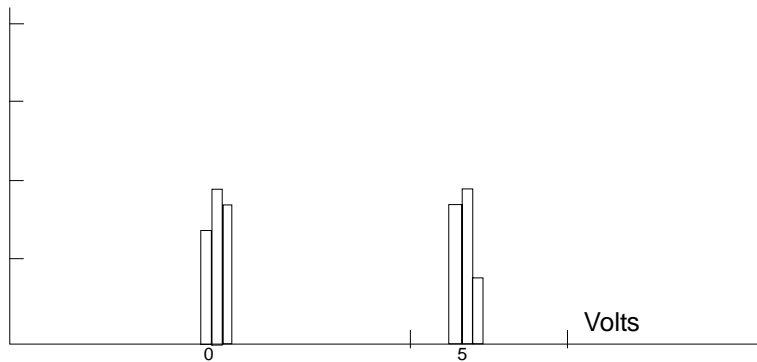

Figure 4.2
**Example:** In Figure 4.2, a histogram of the voltage value of a five-volt amplitude square wave is centered around two peak value bins: 0 V and 5 V. The adjacent bins signify variation due to noise. The graph of the centered bins shows both as peaks.